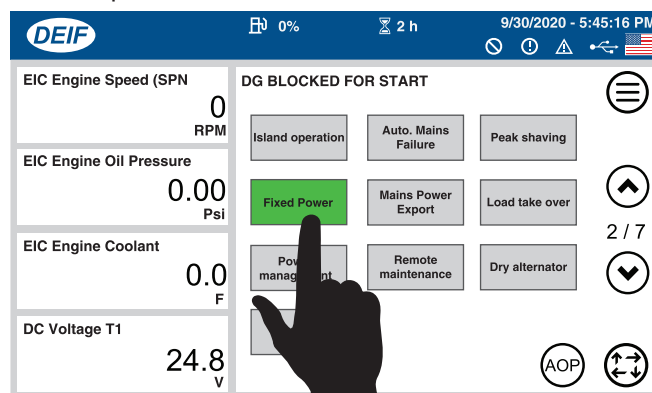

Figure 162. Screen 2 of 7 (Fixed Power Button)
- Verify that **screen 2 of 7** is displayed (Figure 162), then press the **Fixed Power** button.